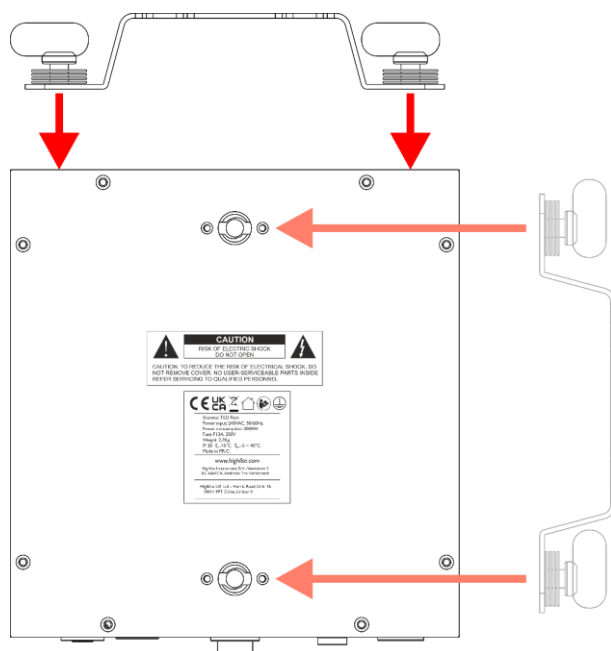

Fig. 08
- 01) Fasten the quick lock bracket, supplied with the device, on the **mounting holes for quick lock bracket (15) or (16)**. You can position the quick lock bracket on the top plate of the device or on the back plate of the device, as shown in Fig. 08.